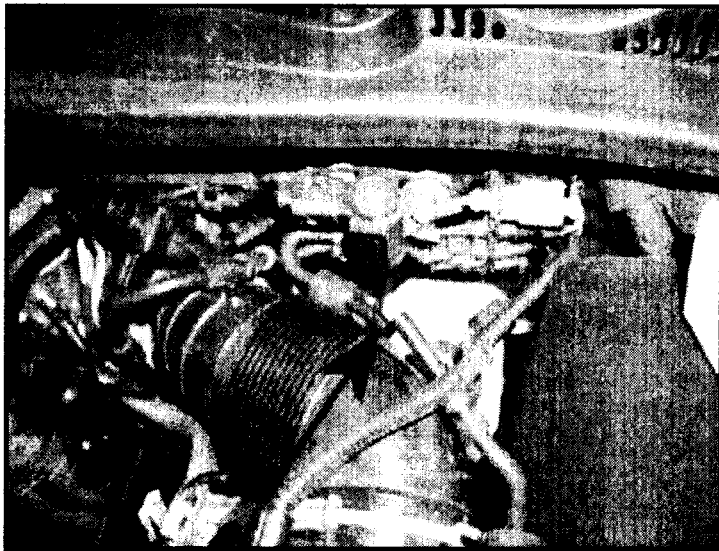

Figure 5
- Cut ventilation hose to air cleaner where indicated in figure 5.